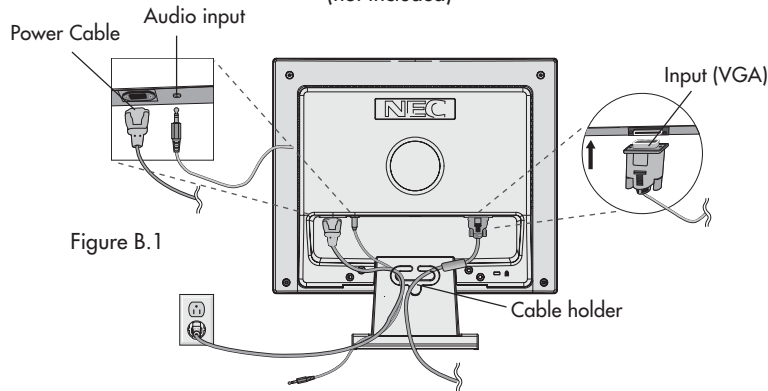

Figure B.1
3. Connect the 15-pin mini D-SUB of the video signal cable to the appropriate connector on the back of the monitor (**Figure B.1**). Connect the audio cable to AUDIO-INPUT on the back of the monitor and the other end to the "Audio out" terminal of the computer. Headphones may be connected to the "Headphones" output on the front of the monitor "G". While the headphones are connected, the sound from the speakers will be disabled. Headphones can be purchased from your local electronics store.
4. Connect one end of the power cord to the LCD and the other end to the power outlet. Place the video signal cable, power cord and audio cable between the cable holder (**Figure B.1**).